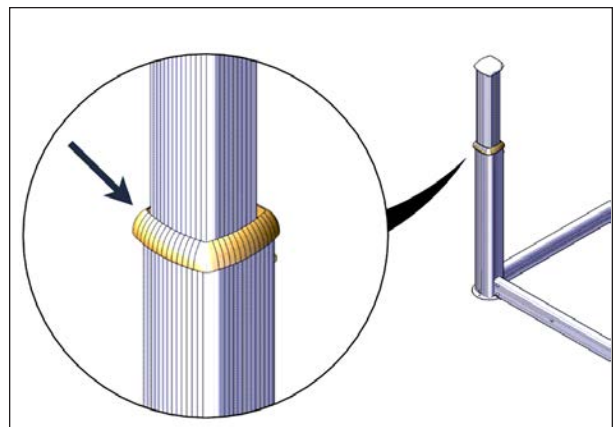

FIGURE 45: ALL-WEATHER SEAL INSTALLATION
22. Install the all-weather seal on each post and make sure it is slid all the way down against the top of each outer sleeve, see Figure 45.